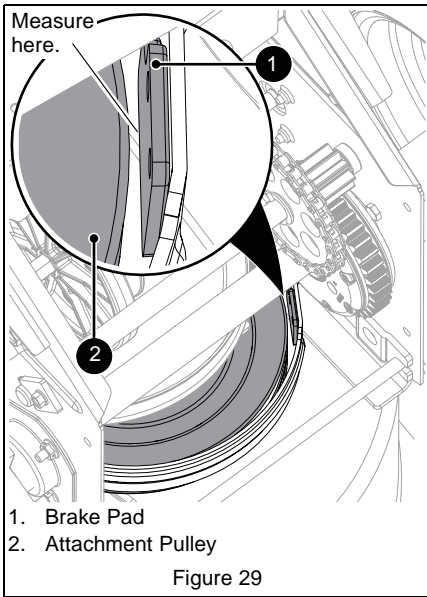

Figure 29
- If roller is less than 12.7 mm (1/2") from frame, loosen idler adjustment nut and move idler closer to belt. Tighten adjustment nut and recheck roller clearance. See Figure 29.
- If roller is more than 22.2 mm (7/8") from frame, loosen idler adjustment nut and move idler away from belt. Tighten adjustment nut and recheck roller clearance. See Figure 29.
- If there is less than 1.6 mm (1/16") gap, loosen idler adjustment nut and move idler away from belt. Position idler to achieve a 1.6 mm (1/16") minimum brake pad gap and a 12.7 – 22.2 mm (1/2 – 7/8") gap between the plastic roller and the frame. See Figure 29.